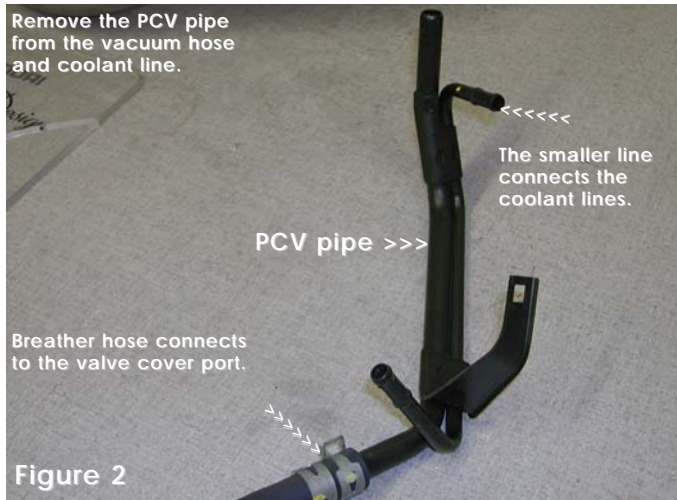

Figure 2
2. When the engine has had enough time to cool down remove the PCV hard pipe which connects the breather hose and coolant lines. (See fig. 2)